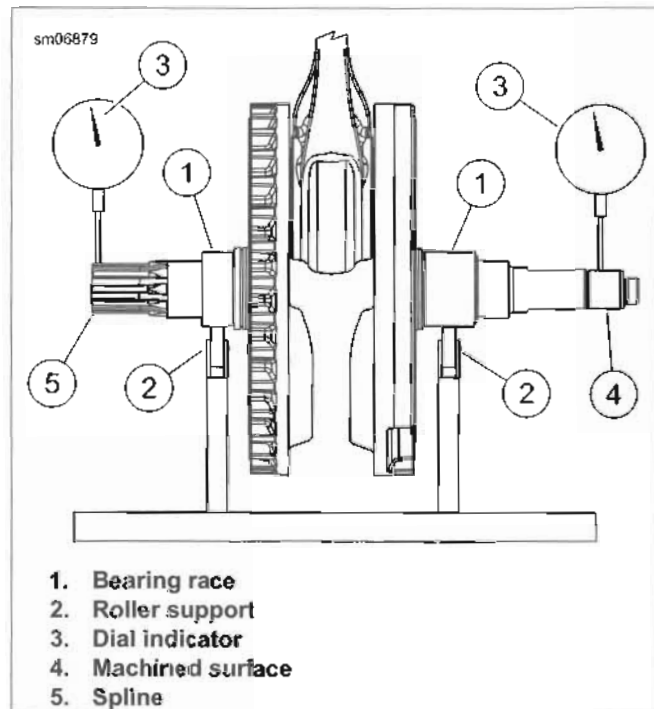

Figure 3-147. Checking Crankshaft Runout
1. See Figure 3-147. Mount crankshaft in truing stand so it is supported on the bearing races (1) by the roller supports (2).